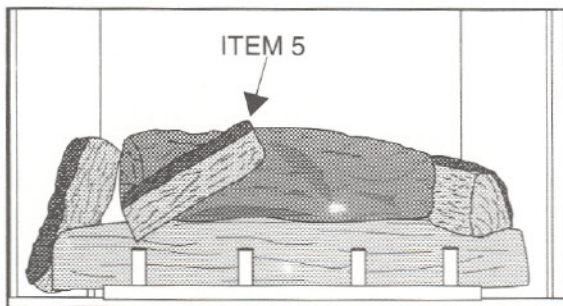

Figure 57
6. See Figure 57. Position (Item 5) next, with the "bark" to the left. Place one end of the log in the indentation on the far left of the Front Log. The opposite end will lay on the Back Log, almost near the middle of the Back Log.